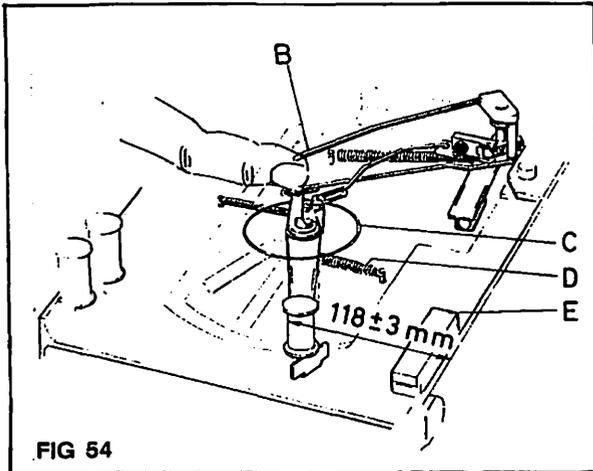

FIG 54
- remove the supply flange, see FIG 54.